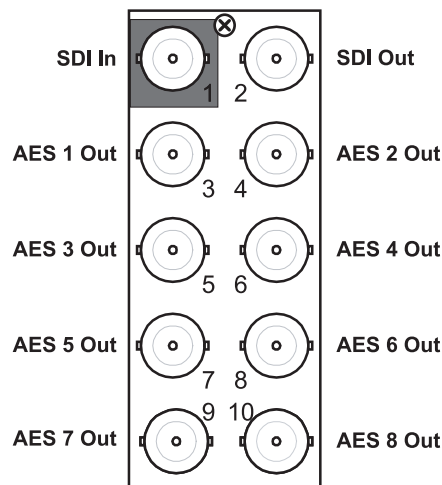

Figure 3.3 Cable Connections for the DMX-8259-A
- **DFR-8310 series frames** — The **8310AR-030** Rear Module is required. The DMX-8259-A is also compatible with the DFR-8310-BNC frame (with the cooling fan option installed). Each rear module occupies one slot and accommodates one card. This rear module provides one SDI input, one SDI output, and eight AES unbalanced outputs at 75ohm. (**Figure 3.3**)
- **DFR-8320, OG3-FR, and OGX-FR series frames** — The **8320AR-041** Rear Module is required. Each rear module occupies two slots and accommodates one card. This rear module provides one SDI input, one SDI output, and eight AES unbalanced outputs at 75ohm. (**Figure 3.3**)